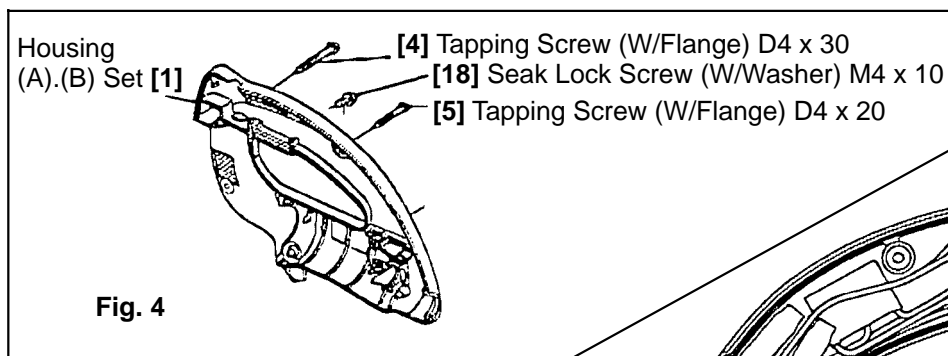

Fig. 4
(2) Disassembly of Housing (A). (B) Set **[1]** for the Model CJ 120V (Figs. 4 and 5)
Remove the Seal Lock Screw (W/Washer) M4 x 10 **[18]**, Tapping Screws (W/Flange) **[4]** **[5]**, and open one side of the housing. (Fig. 4) Then remove two Tapping Screws (W/Flange) D4 x 16 **[15]**, Brush Holder **[23]** with Carbon Brush **[22]**, so the other side of the housing can also be separated from other assemblies.